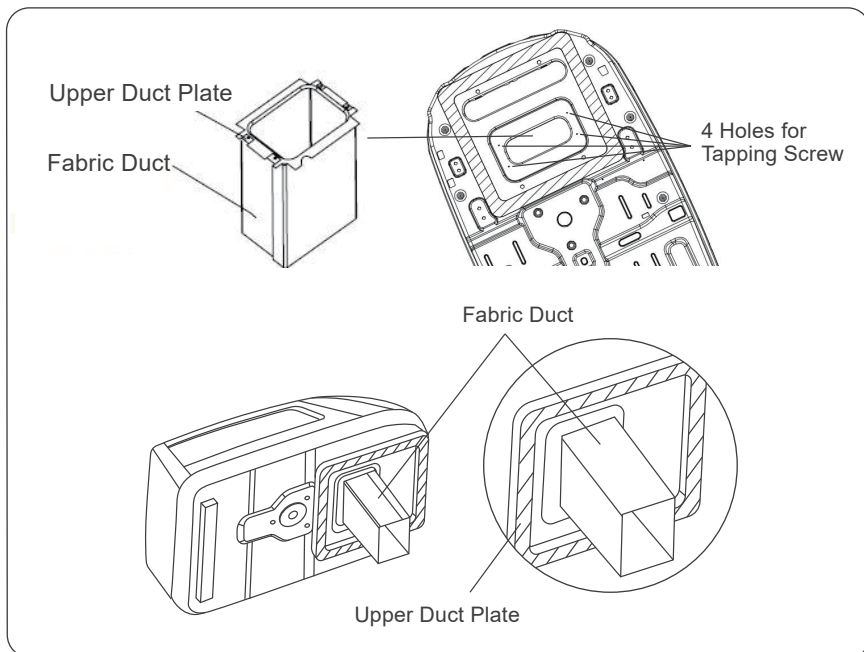

Figure 8
- Fasten the fabric duct (assembled) to the chassis of the rooftop air conditioner with 4 tapping screws by the upper duct plate. See Figure 8.